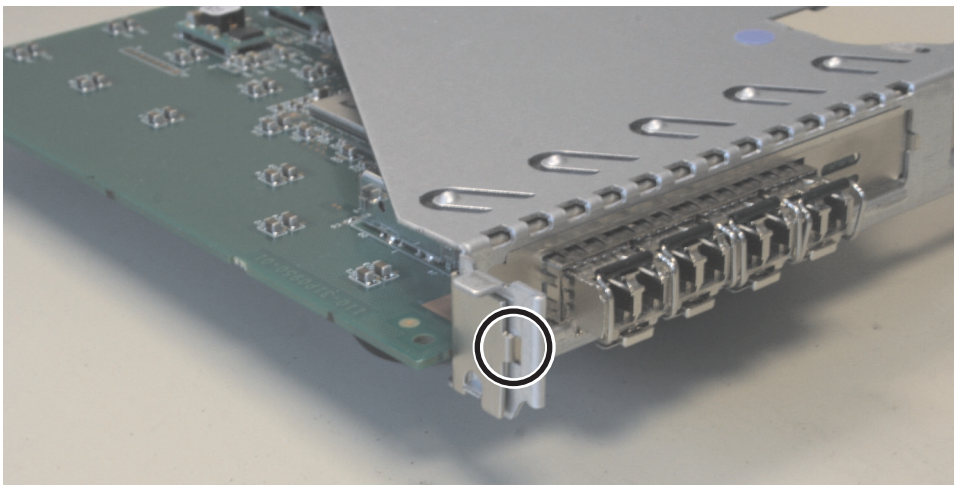

Figure 181. SAN Volume Controller 2145-8A4 riser-card assembly
2. Slide the Fibre Channel adapter into position, keeping it close and parallel to the back edge of the riser card. Push the adapter securely into the connector. Ensure that the positioning clip on the adapter goes into the locating hole on the riser card, as shown in Figure 181.